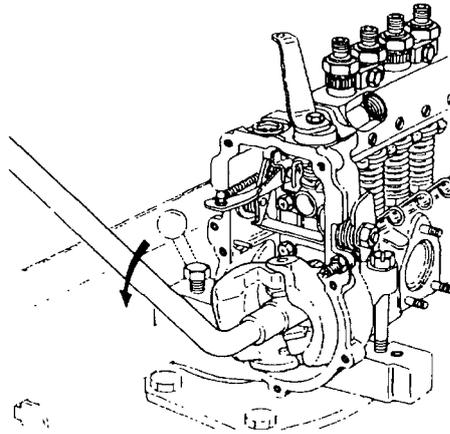

Figure 66 Removing the Flywheel Locknut
- l. Position the coupling spanner (Table 3, Serial 19) on the camshaft coupling to prevent the camshaft from turning and with the wrench (Table 3, Serial 20) and the lever (Table3, Serial 23), remove the flyweight locknut (Figure 66).